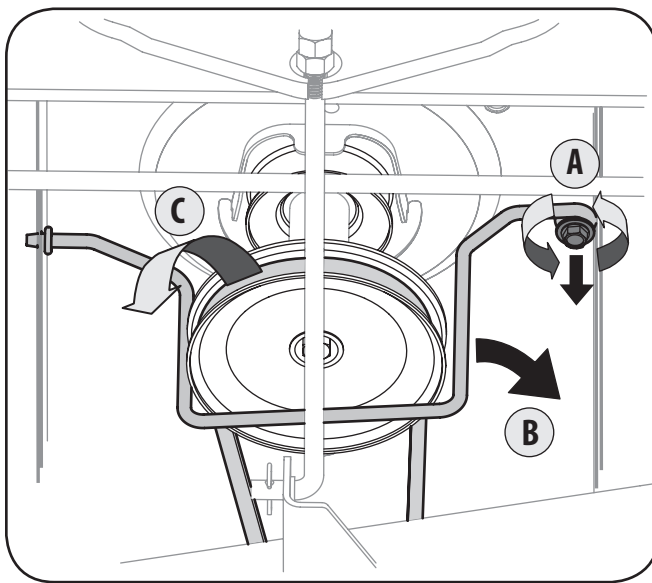

Figure 7-1
3. Remove the belt-keeper rod, from around the tractor's engine pulley, by removing the self-tapping screw (A) that secures it. See Figure 7-1.
4. Remove the belt (C) from around the tractor's engine pulley and idler pulley(s). See Figure 7-1.